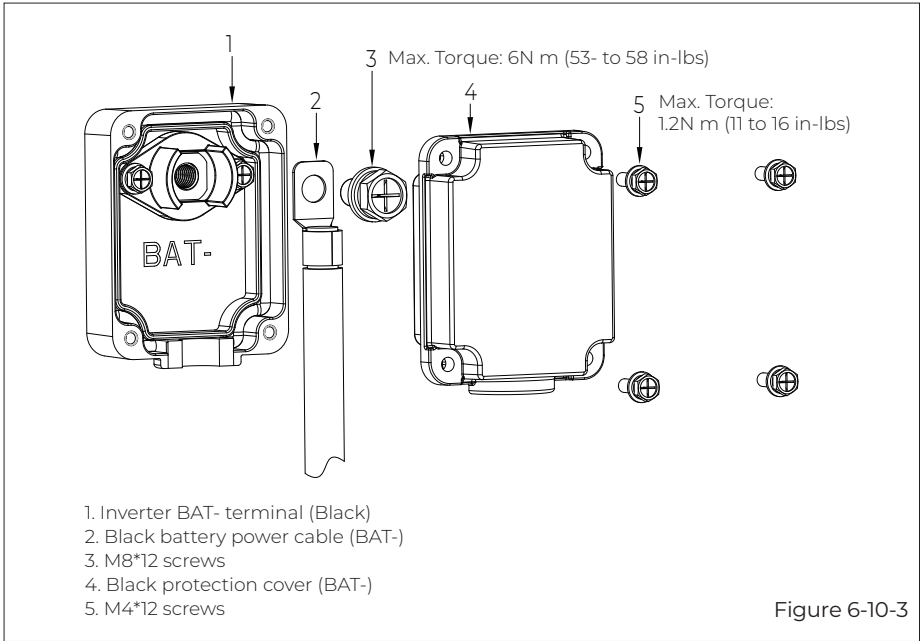

Figure 6-10-3
- Secure the black protection cover with M4 screws. See Figure 6-10-3.